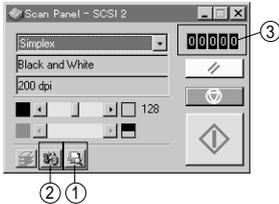

Fig. 2-51
When prescan, activated on the Scan Panel Fig. 2-51 ①, is executed, the first page of the document is scanned. The brightness, contrast and other image quality settings can be adjusted while viewing the image of the first scanned page displayed in the prescan window.
This function counts the document pages with the counter that is displayed on the Scan Panel Fig. 2-51 ③.
When scan only is activated (Fig. 2-51 ②) by selecting start in the scan panel.